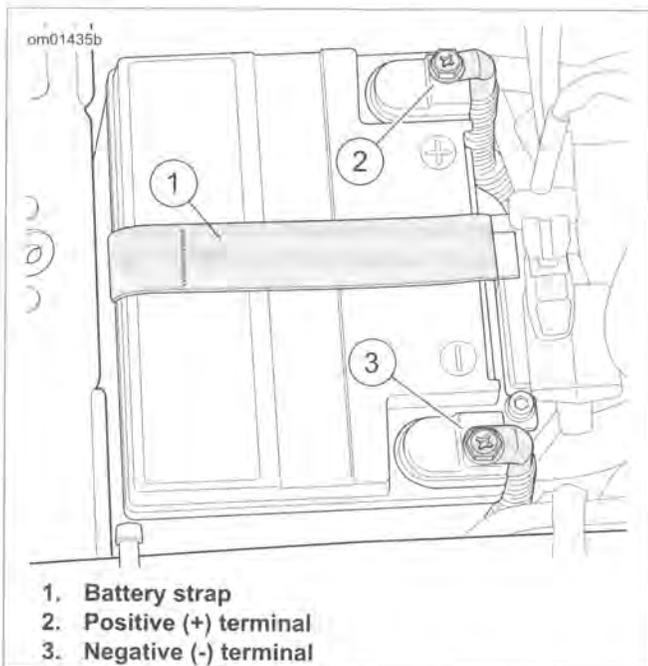

Figure 1-46. Battery Compartment
9. See Figure 1-46. Disconnect both battery cables, negative battery cable first.
2. See Figure 1-46. Place the battery into the battery tray, terminal side forward.